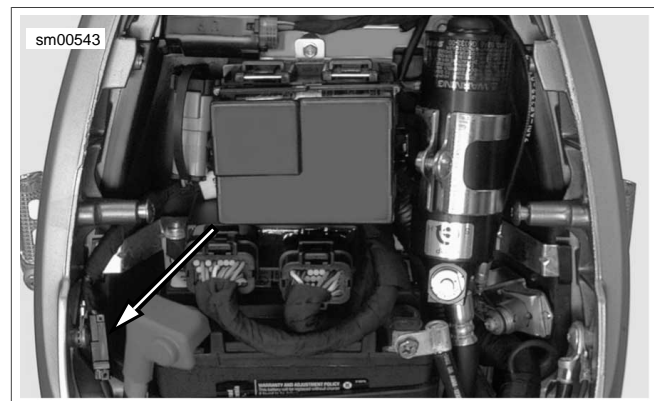

Figure 2-77. Brake Line Switch Connector (XB12S Shown)
3. See Figure 2-77. Disconnect brake light connector from under seat in the front of the battery.